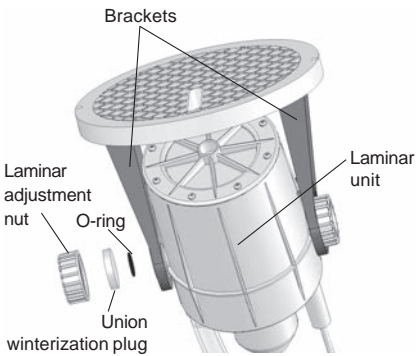
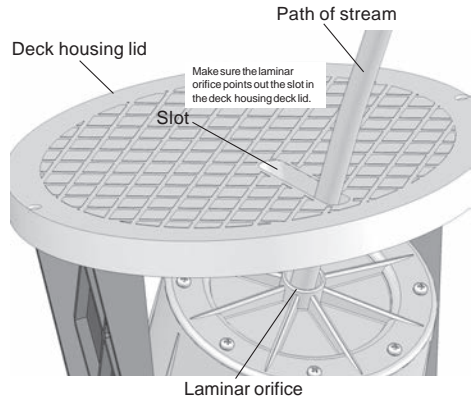

Figure 3.
Figure 4.
- Carefully spread the brackets and slide the laminar unit into the holes in the brackets (Figure 3), making sure the Laminar orifice is pointed out the top slot in the deck housing lid (Figure 4).